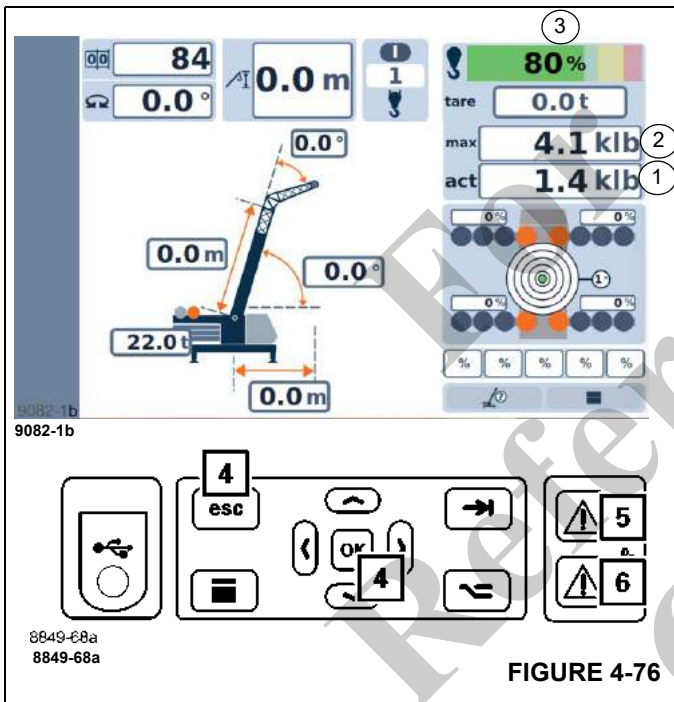

FIGURE 4-76
- After five seconds, you can switch off the buzzer tone using button (4), (Figure 4-76).
- Lamp (6) will illuminate.
- Display (3) shows the current degree of utilization, e.g. 100%; the bar is red.
- The value on display (2) is equal to or greater than the value on display (1).